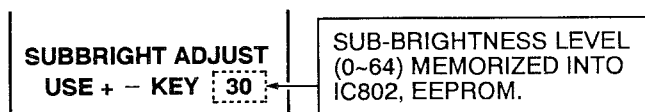

Figure 2. SUBBRIGHT ADJUST Display
6. While pressing the "MENU" key, connect the AC power cord again. Then "SUBBRIGHT ADJUST" display appears. (See Figure 2.)